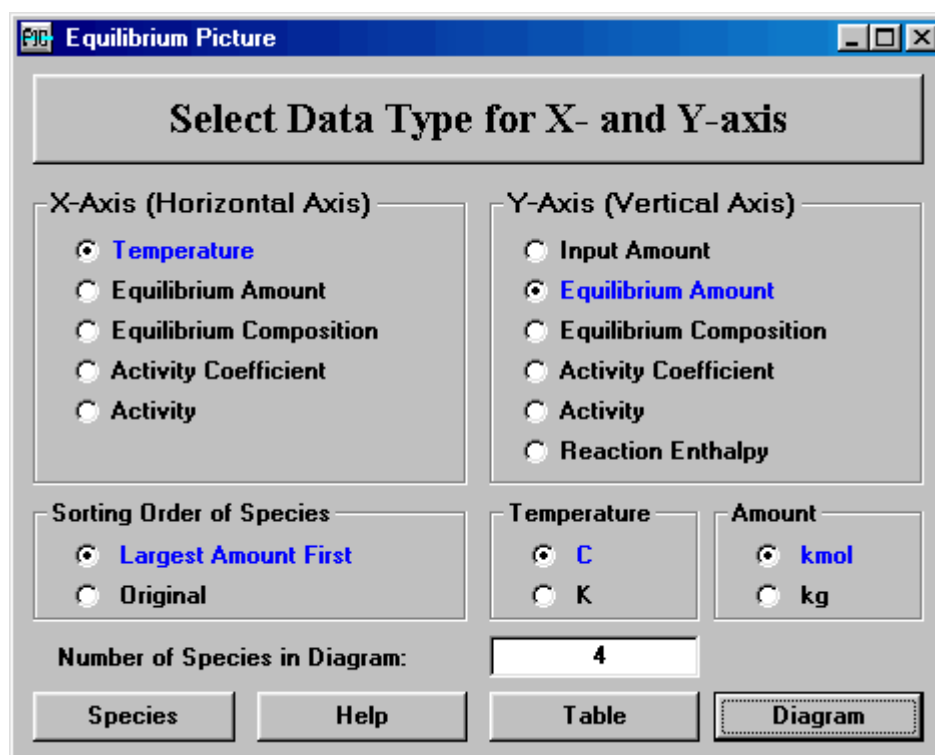
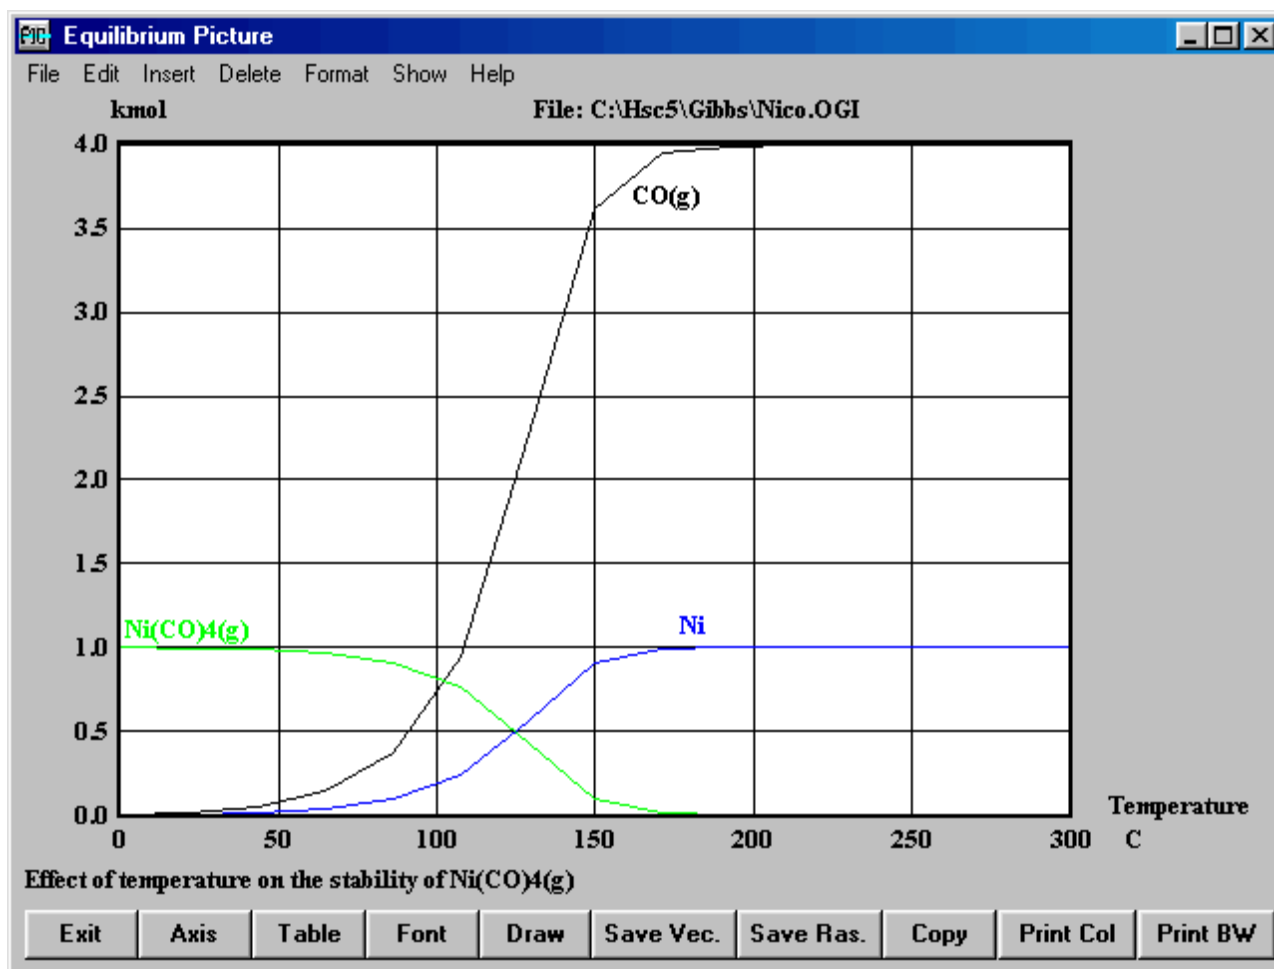

Fig. 10. Selecting data type for the x- and y-axis.
Fig. 11. Equilibrium Diagram.
6. Gibbs energy minimization routines do not always find the equilibrium configuration. You may check the results by a known equilibrium coefficient or mass balance tests. SOLGASMIX provides a note on error in such cases. It is evident that results are in error if you get random scatter in the curves of the diagram, see Figs. 11, 17 and 19. You can then try to change species and their amounts as described in Chapter 13.2 (2. Phases, 4. Amount of Species).
When you press **Diagram** in the Axis menu, Fig. 10, then the PIC post-processor module reads the equilibrium results from the file and draws the diagram using default scale, font, line width, etc. selections, see Fig. 11. Note that the program inserts the species labels automatically above the maximum point of the curve using the same color for the curve and label. If the line is not within the selected x- and y-range or it is on the border then the program will not draw the line or the label.
You can edit the diagram, Fig. 11, by using several formatting options:
11. Press **Axis** to return to the previous Axis menu, Fig 10.
You can display the equilibrium results in a tabular format by pressing **Table** the Axis menu, Fig. 10, or in the Diagram window, Fig. 11. The Table window has several Excel type features in a similar way to the other spreadsheets in HSC. The most important features are:
The **Axis** button will open the Axis menu, Fig. 10, and **Diagram** will draw the diagram, Fig. 11.